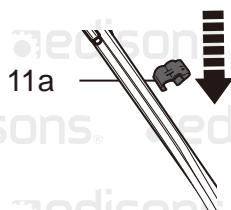

Fig. 3
7. Fix the wires **(6, 7, 8)** with the wire clips **(11a, 11b)** to the lower handle bar **(9)** (Fig. 3).